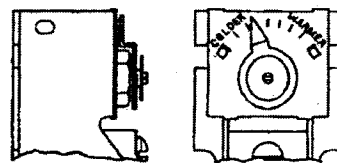

Fig. 3 — Drawing showing screwdriver slot range adjustment with stops.
2. Screwdriver slot with stops, colder-warmer dial (Fig. 3).
Fig. 9 (right) — Clip-on terminal insulator, optional at extra cost on models specifying adjustments shown in Figs. 3, 4 and 5, but without center support mounting (Fig. 7).